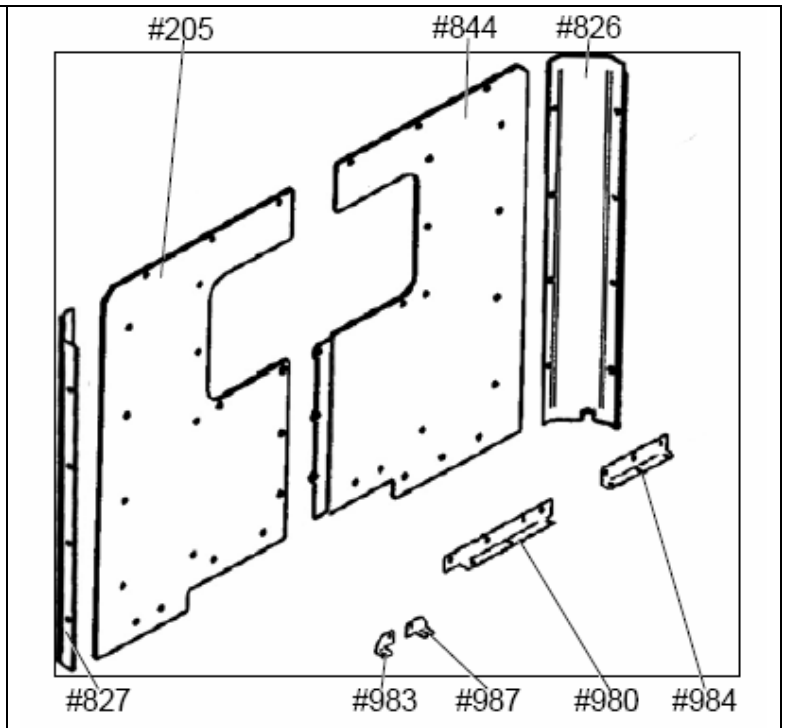
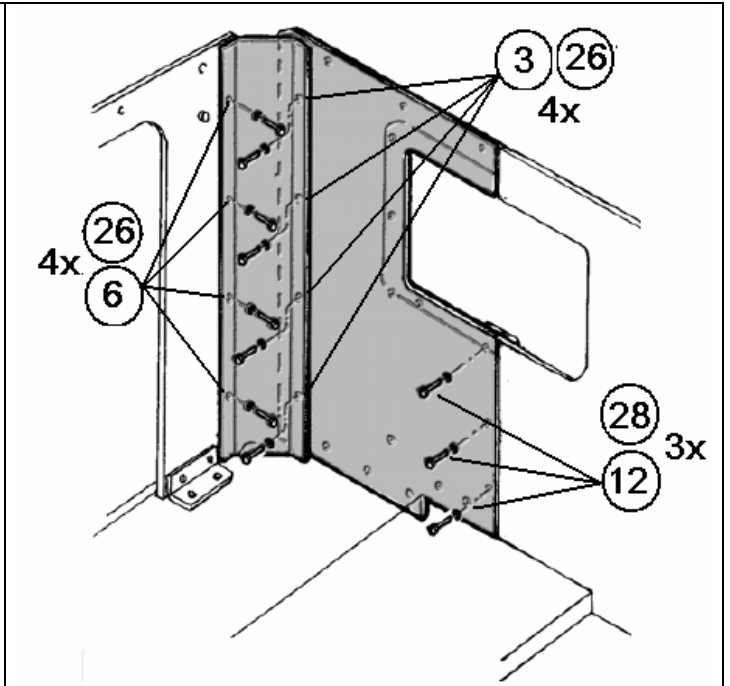
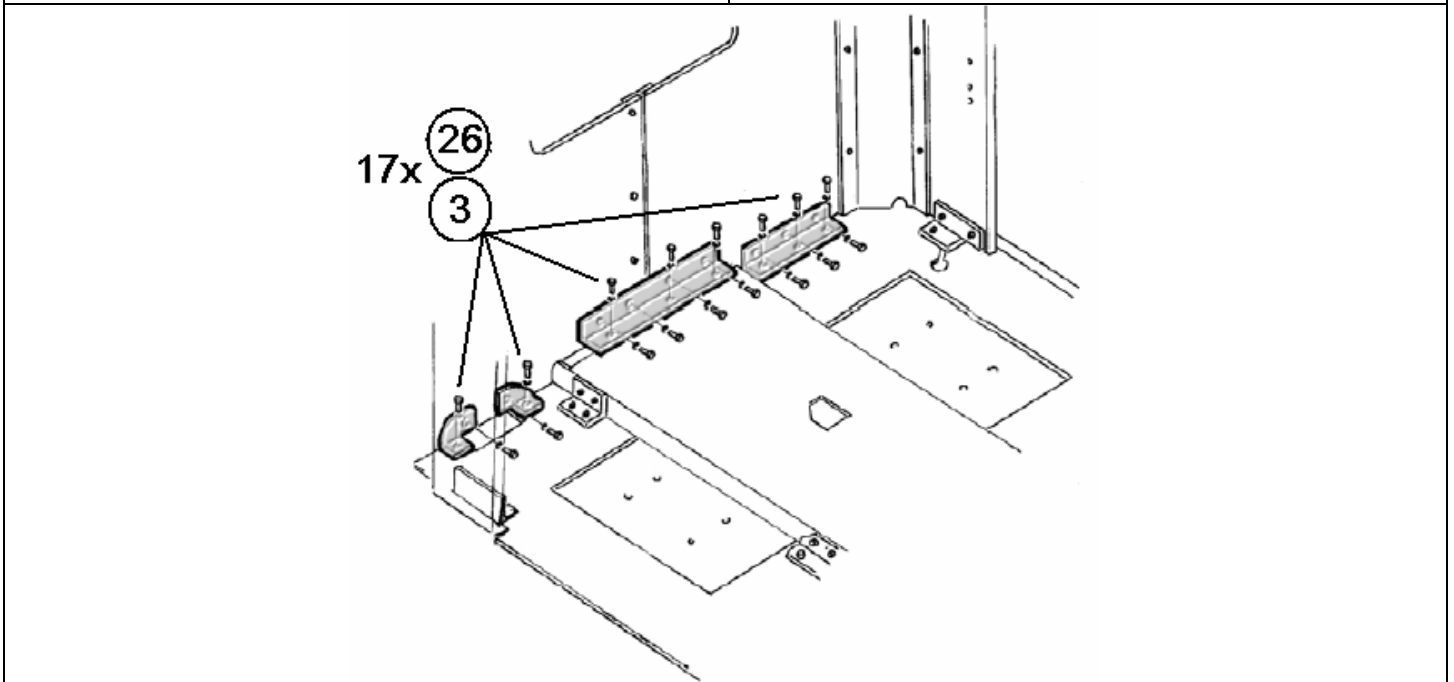

Figure 5-27. Backside Kit Installation – Parts.
Figure 5-29. Backside Kit Installation (2 of 3).
Figure 5-30. Backside Kit Installation (3 of 3).
Parts (see Figure 5-27)
2. Place panel #205 against the aft cabin wall, right corner, as shown in Figure 5-29. Note that panel #205 will overlap panel #844 in the center. Align the right rear B-pillar #827. Install fasteners through the B-pillar and into rear and side panel as shown. Do not torque the fasteners at this time.
3. Install counter-sunk washers and screws (items 12 and 28) to connect the panels at the center joint.
4. Install brackets, #980, #983, #984 and #987 in locations as shown in Figure 5-27. Secure with bolts and washers as defined in Figure 5-30.